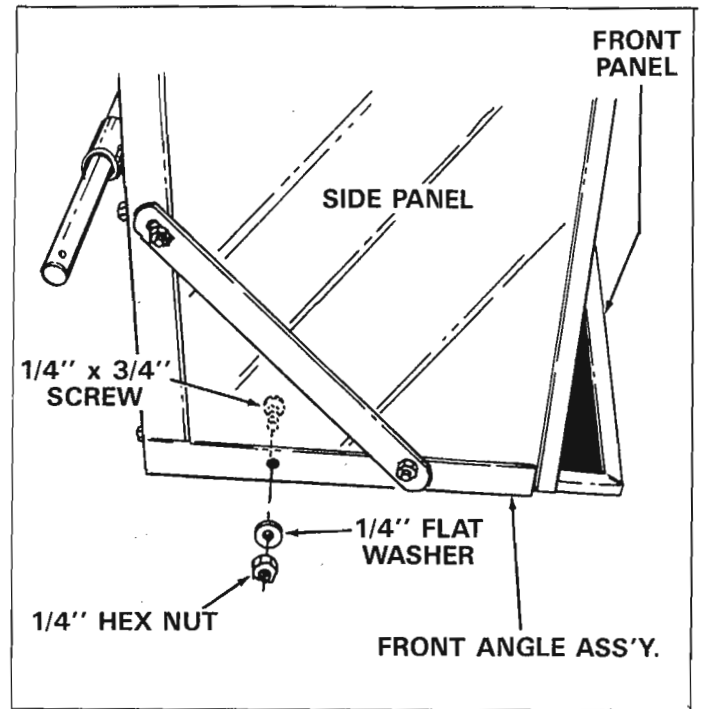

FIGURE 7
- Assemble one  $1/4'' \times 3/4''$  truss head screw through bottom hole in side panel and front angle assembly. Secure flat washer and hex nut. See figure 7. **Make only finger tight at this time.**